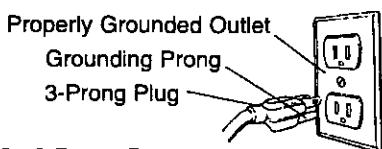

Figure 6 - 3-Prong Receptacle
- This tool is equipped with an approved cord rated at 150V and a 3-prong grounding type plug (see Figure 6) for your protection against shock hazards.
- Grounding plug should be plugged directly into a properly installed and grounded 3-prong grounding type receptacle, as shown (see Figure 6).